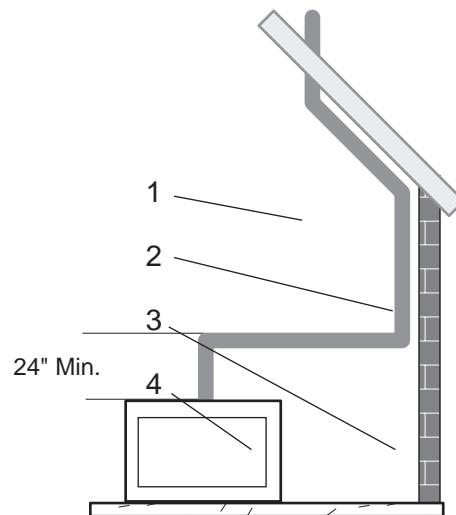

Figure 19 - Maximum Elbow Usage
- Two sets of 45°elbows offsets may be used within the vertical sections. From 0 to a maximum of 8' (2.5 m) of vent pipe can be used between elbows. See Figure 19.
- The maximum angular variation allowed in the system is 270°. See Figure 19.
NOTE: Pay special attention to these installation instructions for required clearances (air space) to combustibles when passing through ceilings, walls, roofs, enclosures, attic rafters, etc. Do not pack air spaces with insulation. Also note maximum vertical rise of the venting system and any maximum horizontal offset limitations. Offsets must fall within the parameters shown in Figures 19 and 20.